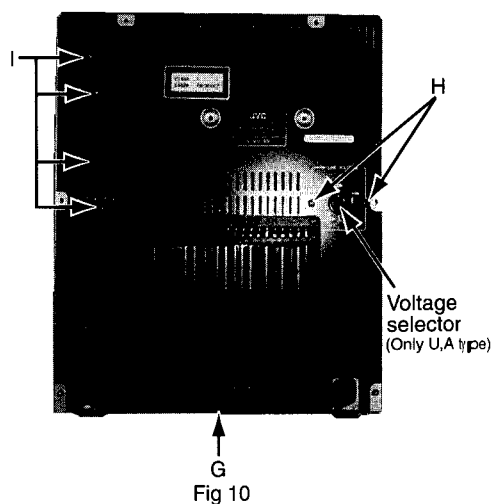

Fig 10
8. Remove the two screws H fastening the voltage selector of the rear panel. (Only U,A type) (See Fig 10)
6. Remove the voltage selector. (See Fig 10)